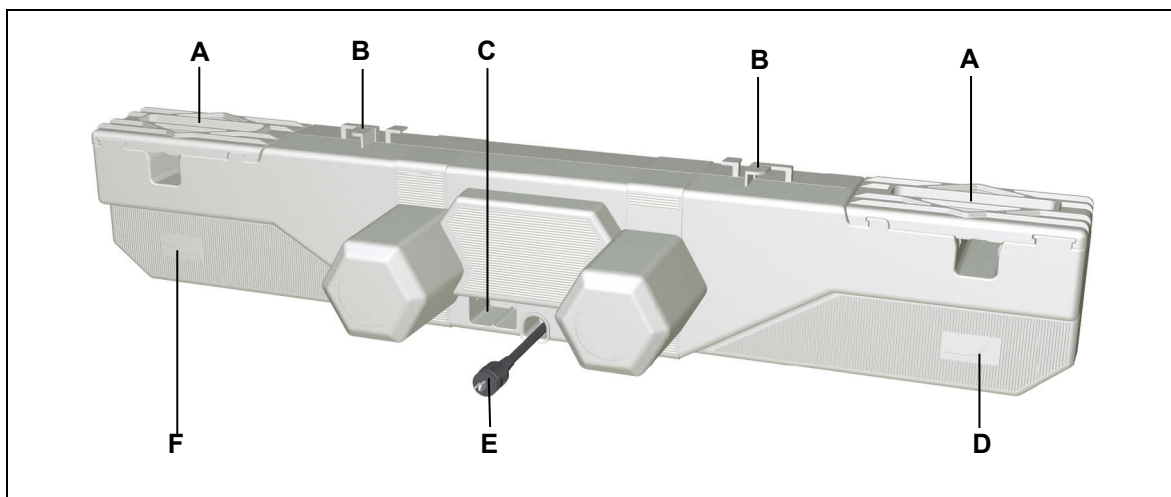

Figure 3 Main components of the DUOMAT 3 CARE EASY
- 2 Pull strongly on the shutters to the side (A). The slots (B) for the brackets (D) are uncovered.
- 3 Line the DUOMAT 3 CARE EASY up next to your product. The slots for the head and foot sides must be properly aligned with the correct brackets on your product (refer to the symbols on the DUOMAT 3 CARE EASY as described in Figure 3).
- 4 Push the drive in so that the brackets (D) fit into the slots (B). Press in until the tubes snap into the brackets.
- 5 Close the shutters (A) on the drive by snapping them back in. The DUOMAT 3 CARE EASY is now securely attached to the end product.